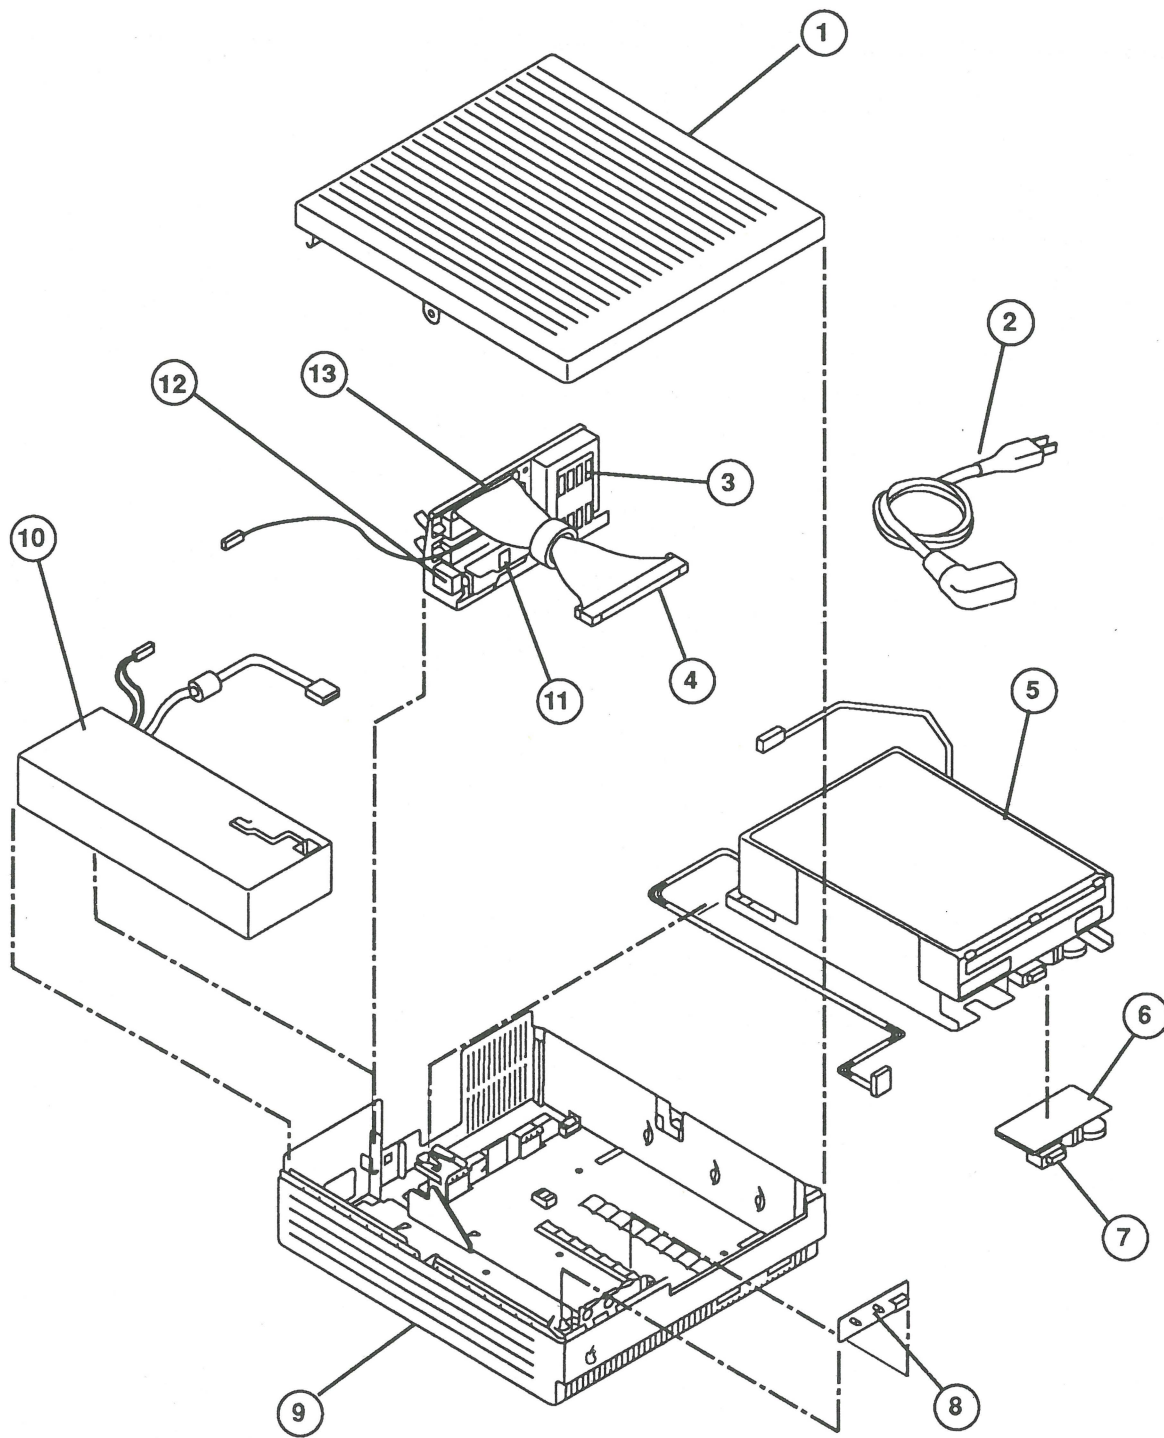

FIGURE 1
2. Disconnect the fan cable by releasing the little holding clip on the connector (Figure 1, #1).
IPL.3 AppleCD SC Drive Mechanism (Figure 1)
□ **APPLE CD SC DRIVE MECHANISM (Figure 1)**